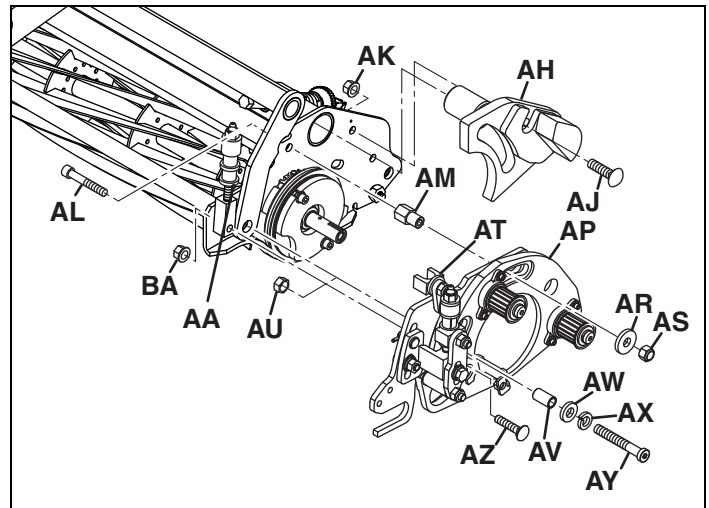

Figure 5
9. Remove nut (AS), screw (AL), spacer (AR), hex spacer (AM), nut (AU), hardware (AV~AY), flange nut (BA) and carriage bolt (AZ). Discard nut (AU). Hold drive assembly (AP) together until assembled to the reel. **See Figure 5.**
10. Assemble 5/16-18 x 2" hex socket screw (AL) and hex spacer (AM) to reel frame. Tighten hex spacer against reel frame.
**Note:** For easier assembly, loosen grass shield mounting hardware to install socket head screw (AL).
11. **ECLIPSE Mowers Only:** Assemble weight (AH) to reel frame using 5/16-18 x 1-1/2" carriage bolt (AJ) and flange nut (AK). **See Figure 5.**
12. Assemble drive side assembly (AP), 7/8 x 1/8" washer (AR), and nylon locknut (AS) to reel. Make certain adjuster bracket (AT) engages bottom notch in adjuster knob (AA). **See Figure 5.**
13. Assemble 3/8-16 x 2" hex socket screw (AY), lockwasher (AX), flat washer (AW) and 1/2 x 29/32" spacer (AV) through drive assembly (AP), lift yoke and into reel frame. Adjust drive side assembly (AP) as required to assemble 5/16-18 x 1-1/2" carriage bolt (AZ) and flange nut (BA). **See Figure 5.**